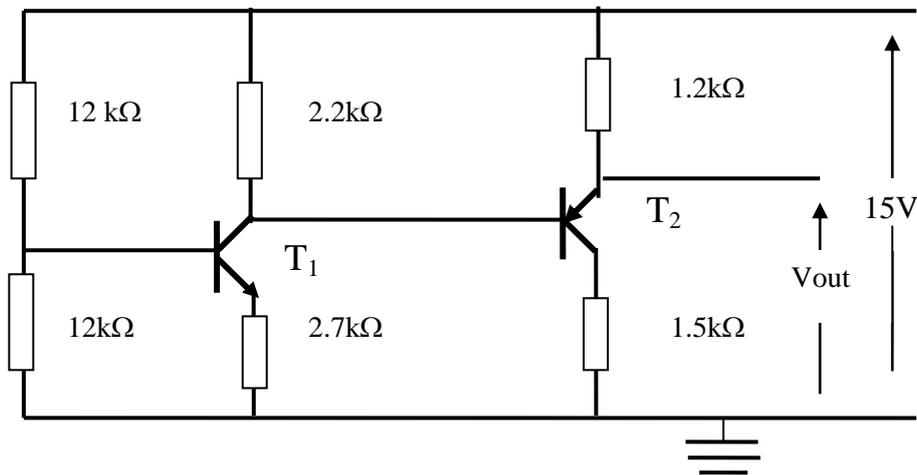

Fig Q3
- (a) the value of the capacitor; (5)
- (b) the time taken for the capacitor to charge to half the supply voltage; (5)
- (c) the value of resistance to be added in series to increase the time found in part (b) above to 1.2 secs . (6)
3. Fig Q3 shows a two stage transistor amplifier using high gain transistors whose base currents are small enough to be neglected. The voltage between base and emitter for transistor T_1 is 0.4 V. and for transistor T_2 it is 0.6 V.